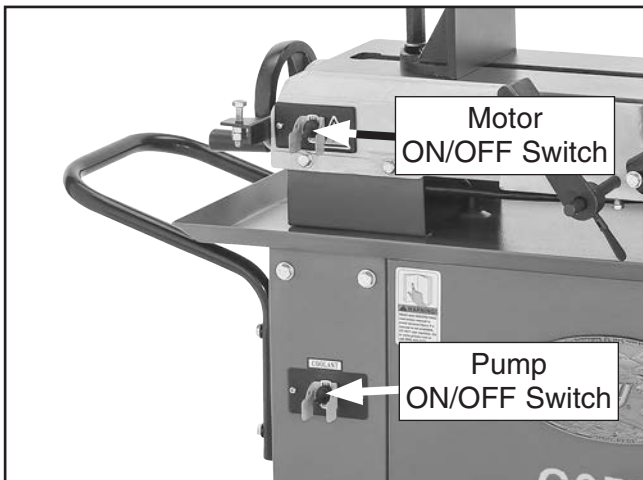

Figure 29. Location motor and pump ON/OFF switches.
6. Use motor ON/OFF switch (see **Figure 29**) to turn machine **ON** and verify motor operation.
7. Use pump ON/OFF switch (see **Figure 29**) to turn coolant pump **ON**. Coolant should flow through blade guide and onto blade.